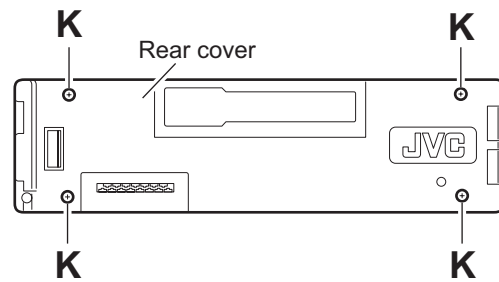

Fig.9
(See Fig.9 to 11)
- (1) Remove the four screws **K** attaching the rear cover on the back side of the front panel assembly. (See Fig.9.)